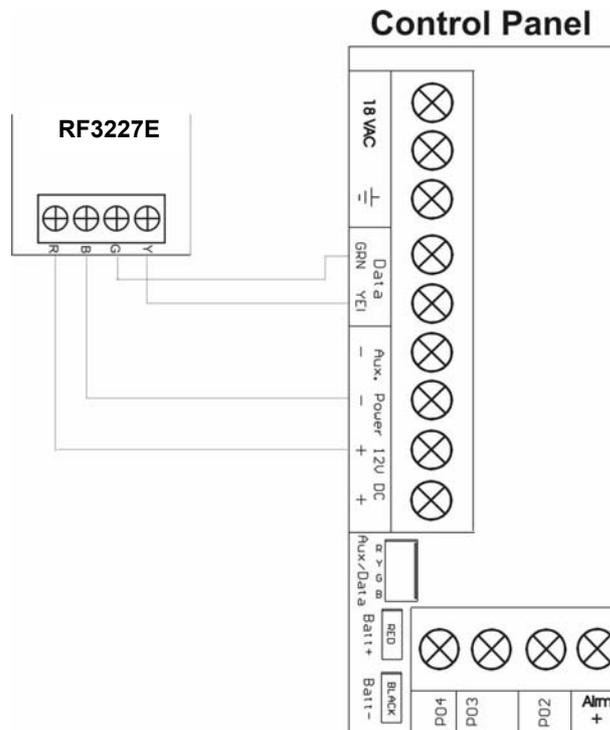

Figure 32: RF3227E Option BUS Connections
- Connect the receiver to the control panel via the option bus terminals as shown in Figure 32. The wiring should not exceed those stated in Table 157.